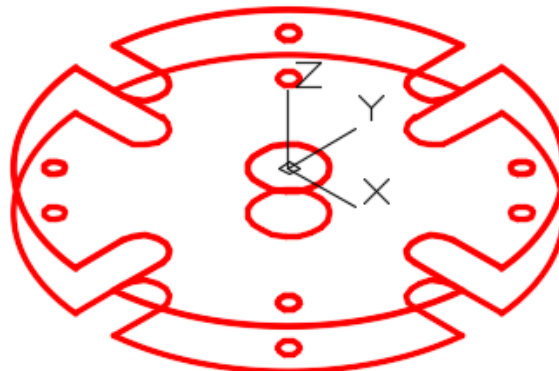

Figure Step 6
Step 6 Using the COPY command, as shown below, copy all of the objects 10 units in the negative Z direction. (Figure Step 6)